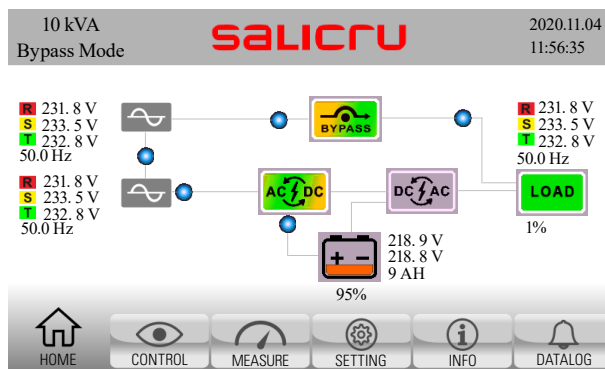

Fig. 57. Main screen in bypass mode. The power flow goes directly from the bypass input to the output, via the static bypass switch.
2. The loads switch to being supplied directly from the static bypass line. Check that the unit's synoptic corresponds to the one in Fig. 57 (unit in bypass mode).
11. The <3A> alarm "maintain is open" disappears. Check that the unit's synoptic corresponds to the one in Fig. 57 (unit in bypass mode).
- b. **The UPS switches automatically from standby mode to bypass mode, the loads switch to being supplied directly from the static bypass line. Check that the alarm <OB> "EPO active" disappears. Also check that the unit's synoptic corresponds to the one in Fig. 57 (unit in bypass mode).**